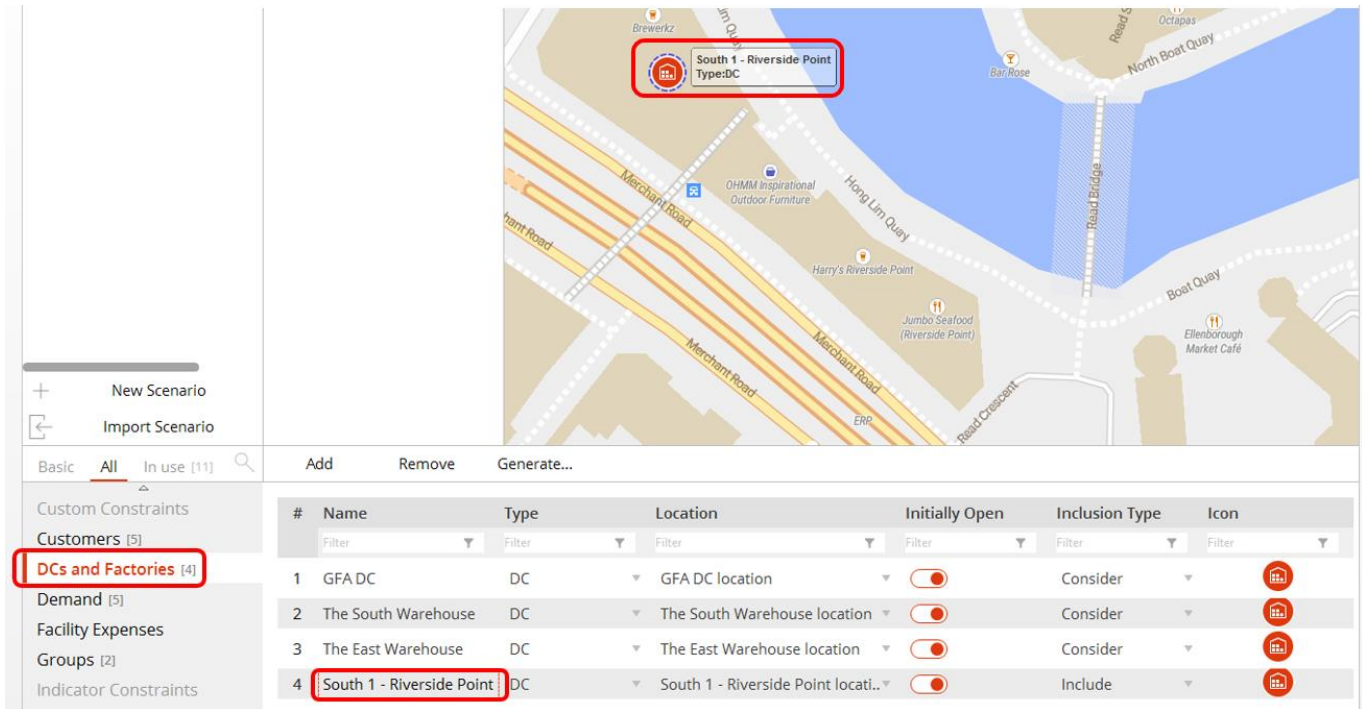

Figure 52: Renaming the Riverside Point Warehouse
- ✓ Figure 52 shows that a new DC logo has appeared at Riverside Point.